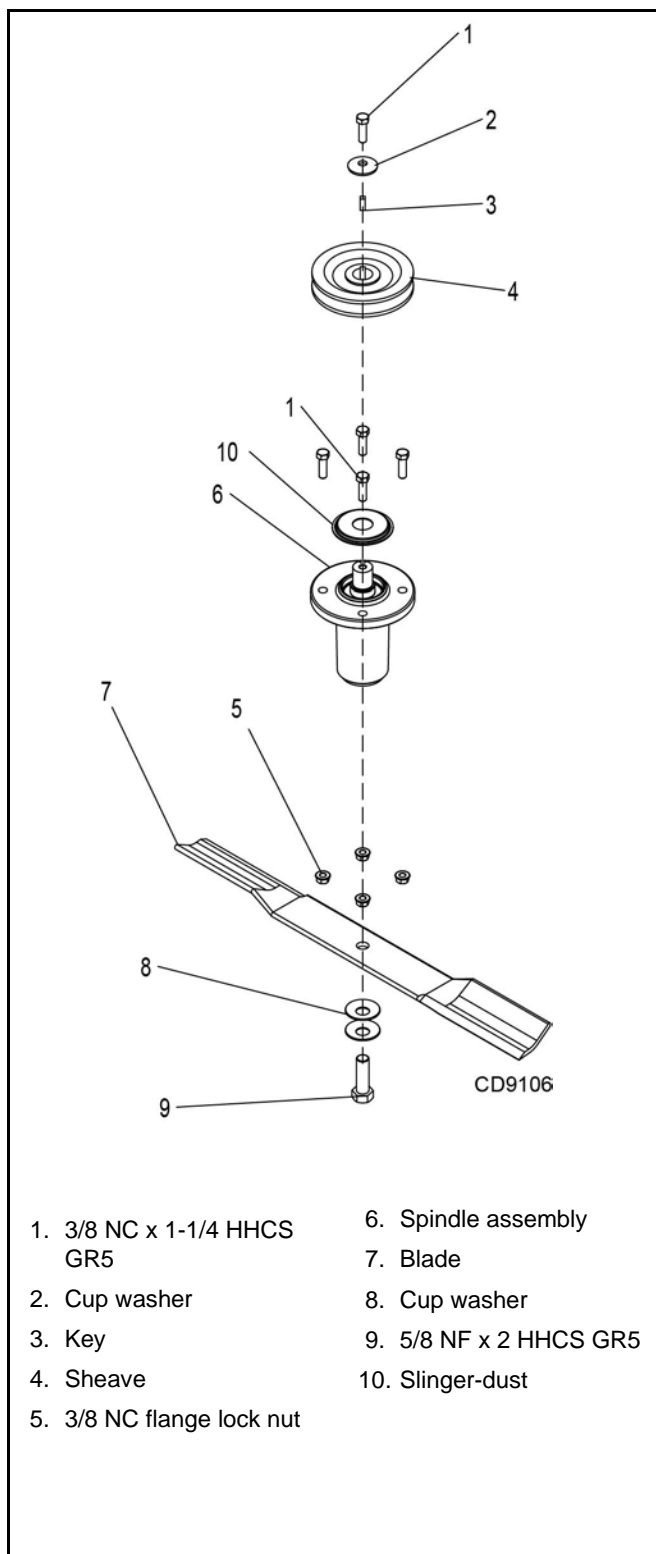

Figure 21. Blade Spindle Assembly
5. Remove nuts (6) and cap screws (7) that secure spindle assembly to mower. See Figure 21.